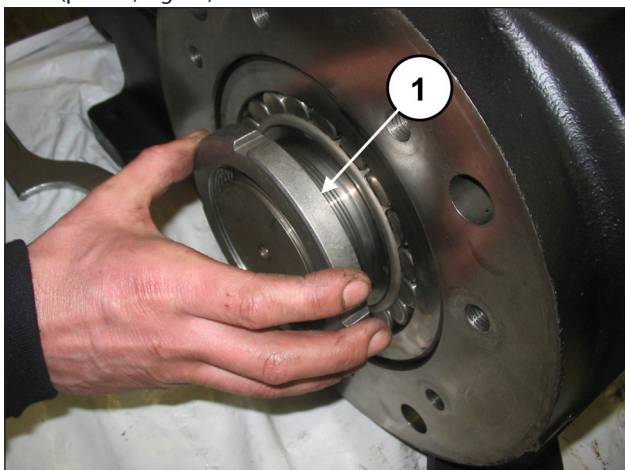
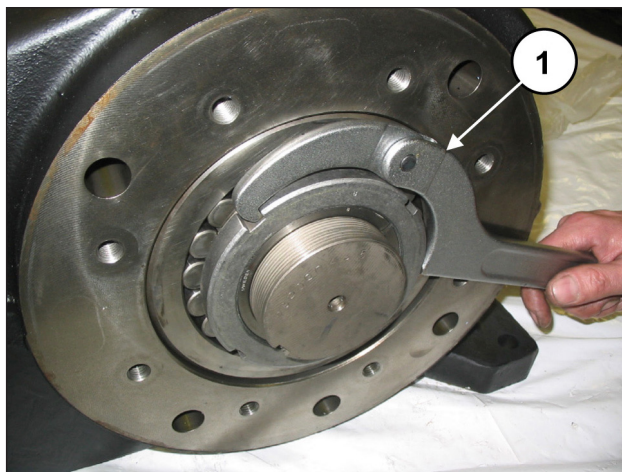

Fig. 19
Fig. 20
Screw a ring nut type SKF KM19 onto the pressure bush (pos. ①, Fig. 19) then, using an appropriate wrench, loosen the bush (pos. ①, Fig. 20).